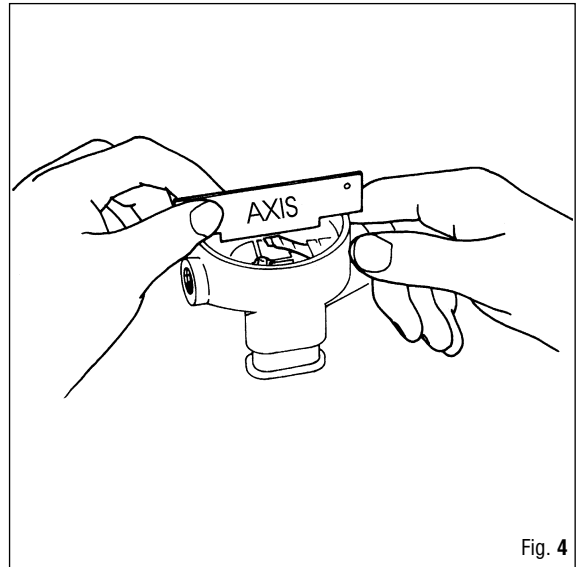

Fig. 4
- A.1** Rest the ends of the gauge (code 46106230) on the edge of the 2nd stage case (Fig. 4).
- A.2** Working through the hole in the second stage case, use the wrench (B-12) to lock down or back off nut (33) in order to adjust the demand lever (35).